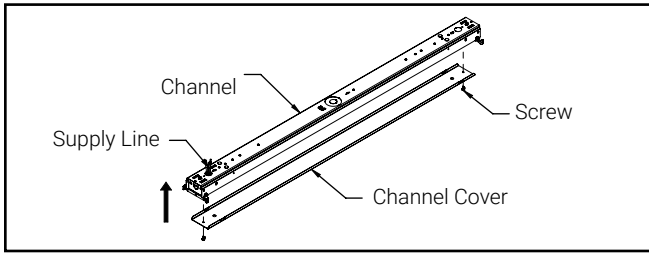

Figure 2
- Wire fixture according to code and install channel cover to channel with provided screws. (Figure 2)